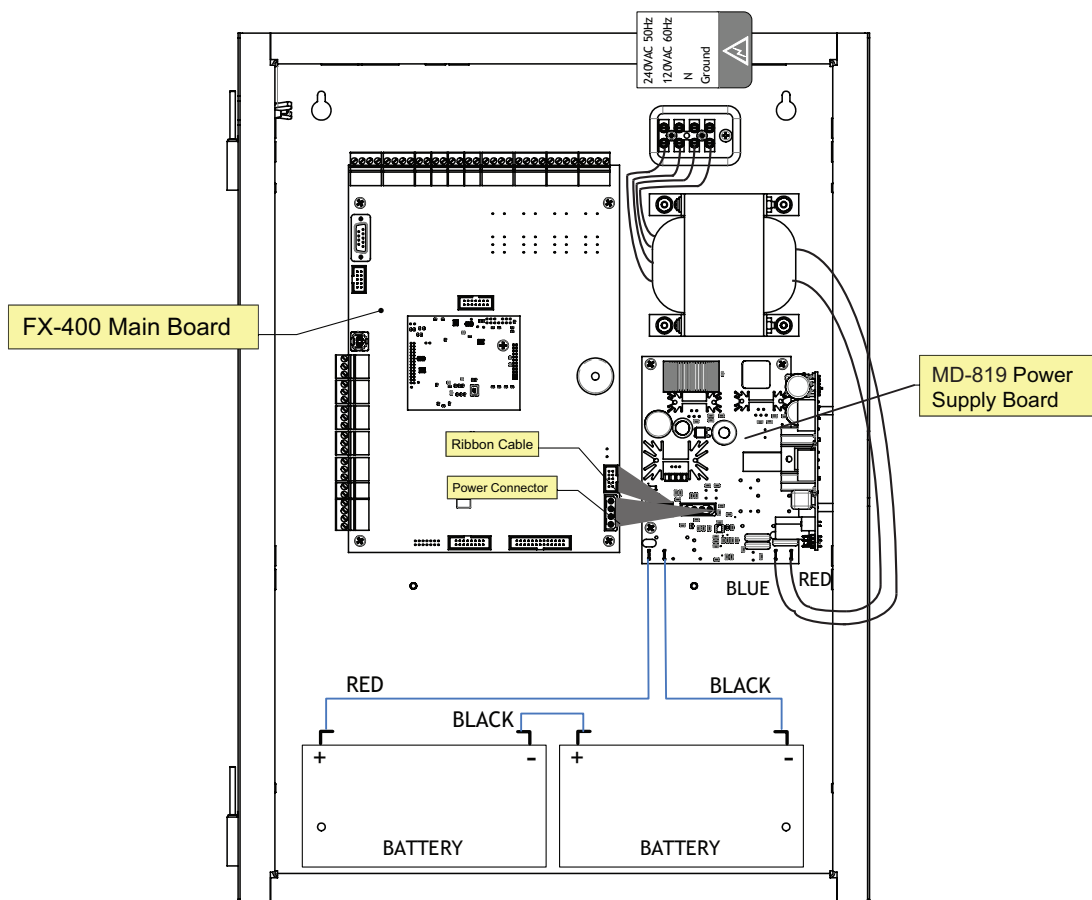

Figure 27 Main Power Supply Wiring and Connections
Wire the Power Supply as shown in Figure 27 and adhere to the following:
- Wire the AC power to the AC wiring terminals as shown in Figure 27 using the proper wire gauge with 600 volt insulation and proper over current circuit protection that complies with local codes.